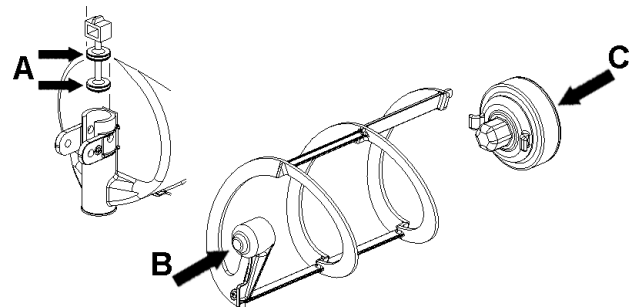

figure 11
- Lubricate faucet piston, outer spiral and outside magnetic rotor (see points A, B and C of figure 11) only with the grease supplied by the manufacturer or other **food grade approved** lubricant.